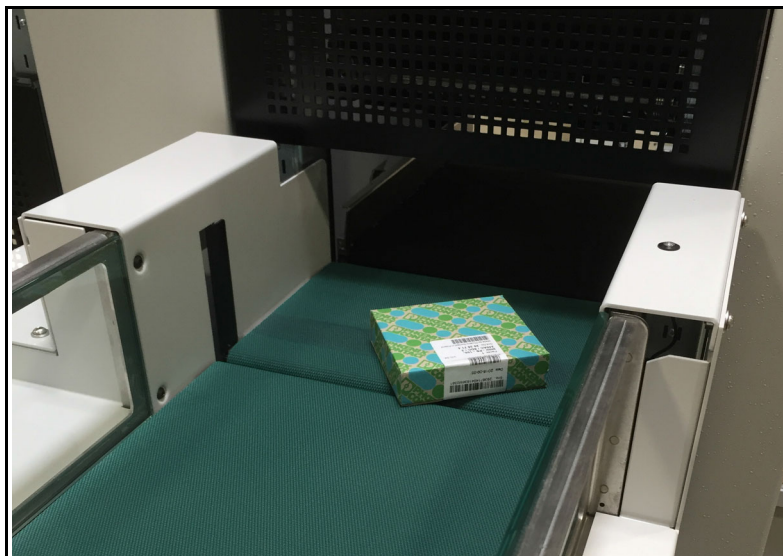

Figure 4-29: Imaging Conveyor Belt Delivers Item to iBOT
4. The imaging conveyor belt carries the item to an awaiting iBOT (see Figure 4-29).